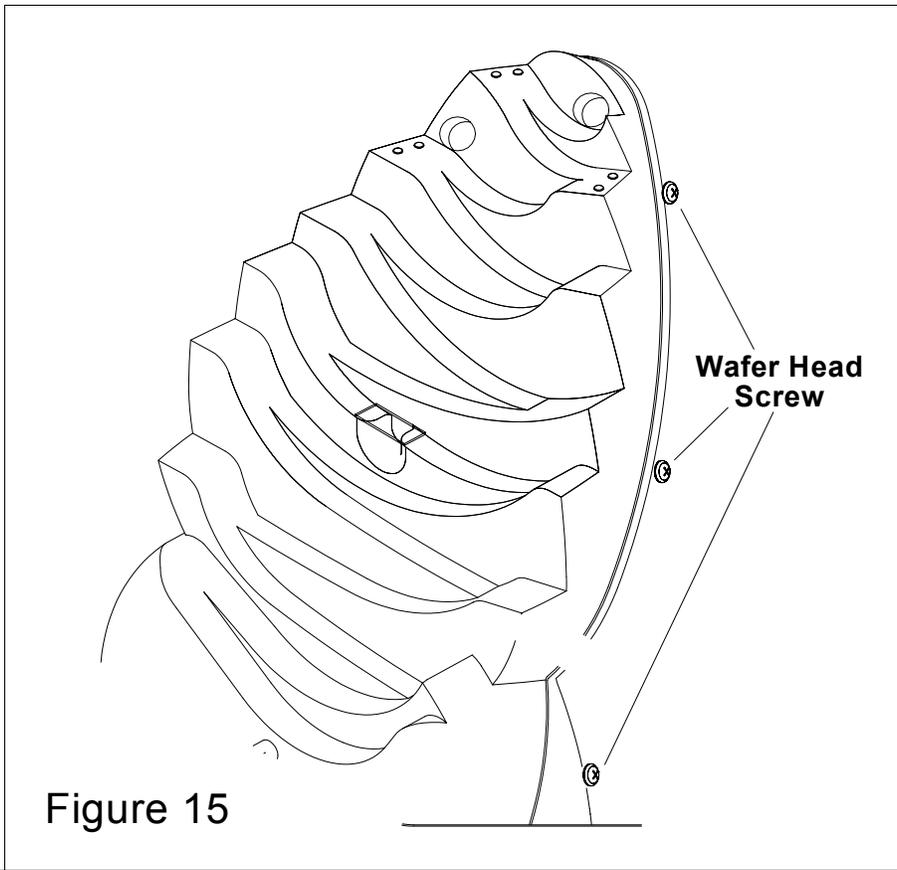

Figure 15
4. Remove the six wafer head screws located around the edge of the play field (see figure 15 & 15A).